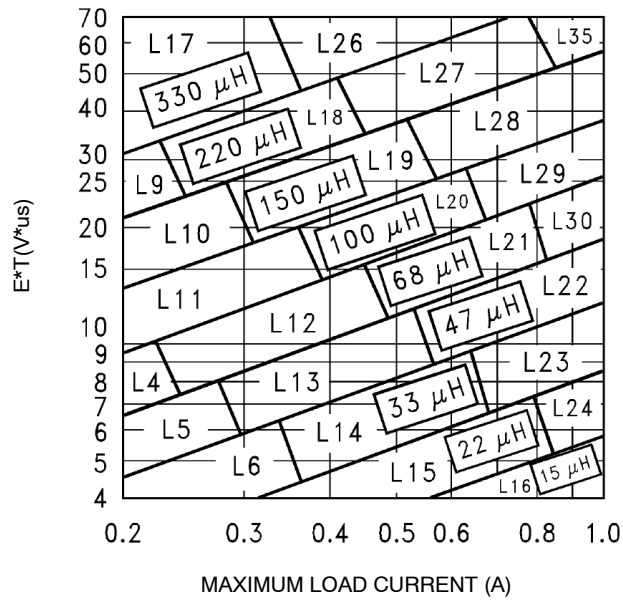

Figure 19. Inductor Value Selection Guides (For Continuous Mode Operation)
<p>4. Inductor Selection (L1)</p> <p>A. Use the following formula to calculate the inductor Volt x microsecond [V x μs] constant:</p> $E \times T = (V_{IN} - V_{OUT} - V_{SAT}) \times \frac{V_{OUT} + V_D}{V_{IN} - V_{SAT} + V_D} \times \frac{1000}{150 \text{ kHz}} (V \times \mu s)$ <p>B. Match the calculated E x T value with the corresponding number on the vertical axis of the Inductor Value Selection Guide shown in Figure 19. This E x T constant is a measure of the energy handling capability of an inductor and is dependent upon the type of core, the core area, the number of turns, and the duty cycle.</p> <p>C. Next step is to identify the inductance region intersected by the E x T value and the maximum load current value on the horizontal axis shown in Figure 19.</p> <p>D. Select an appropriate inductor from Table 3. The inductor chosen must be rated for a switching frequency of 150 kHz and for a current rating of $1.15 \times I_{Load}$. The inductor current rating can also be determined by calculating the inductor peak current:</p> $I_{p(max)} = I_{Load(max)} + \frac{(V_{in} - V_{out}) t_{on}}{2L}$ <p>where t_{on} is the "on" time of the power switch and</p> $t_{on} = \frac{V_{out}}{V_{in}} \times \frac{1.0}{f_{osc}}$	<p>4. Inductor Selection (L1)</p> <p>A. Calculate E x T [V x μs] constant:</p> $E \times T = (12 - 5 - 1.0) \times \frac{5 + 0.5}{12 - 1 + 0.5} \times \frac{1000}{150 \text{ kHz}} (V \times \mu s)$ $E \times T = (6) \times \frac{5.5}{11.5} \times 6.7 (V \times \mu s)$ <p>B. E x T = 19.2 [V x μs]</p> <p>C. $I_{Load(max)} = 1.0$ A Inductance Region = L30</p> <p>D. Proper inductor value = 68 μH Choose the inductor from Table 3.</p>
To simplify the inductor selection process, an inductor selection guide for the LM2595 regulator was added to this data sheet (Figure 19). This guide assumes that the regulator is operating in the continuous mode, and selects an inductor that will allow a peak-to-peak inductor ripple current to be a certain percentage of the maximum design load current. This percentage is allowed to change as different design load currents are selected. For light loads (less than approximately 300 mA) it may be desirable to operate the regulator in the discontinuous mode, because the inductor value and size can be kept relatively low. Consequently, the percentage of inductor peak-to-peak current increases. This discontinuous mode of operation is perfectly acceptable for this type of switching converter. Any buck regulator will be forced to enter discontinuous mode if the load current is light enough.